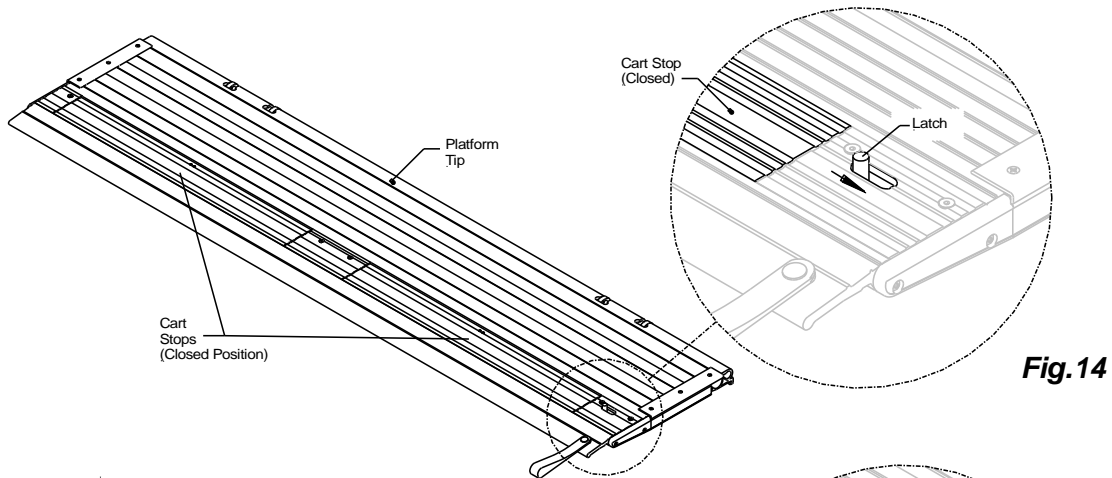
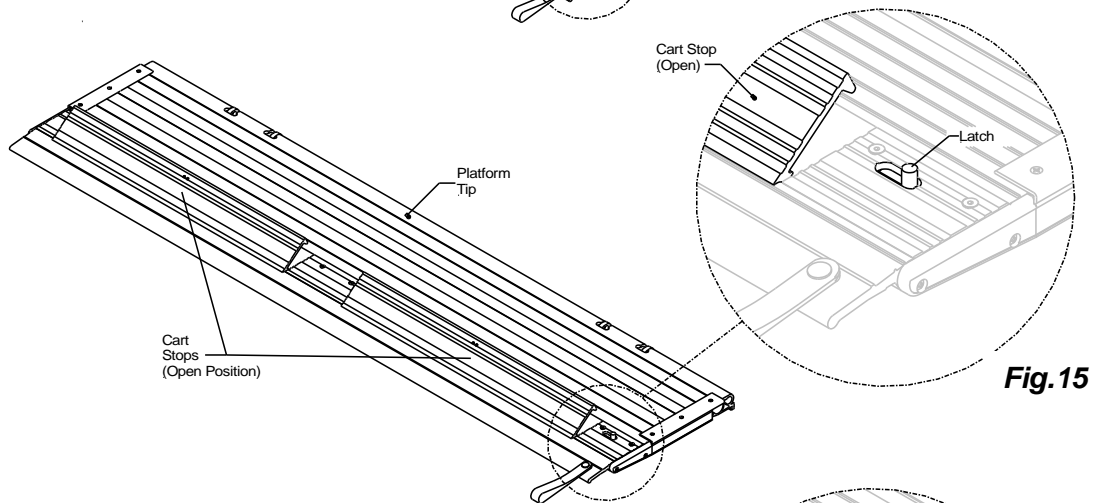

Fig. 14
Fig. 15
1. Push the cart stop latch out toward the curb side, **Fig. 14**. The cart stop will spring open automatically once the latch has been moved from its original position, **Fig. 15**.